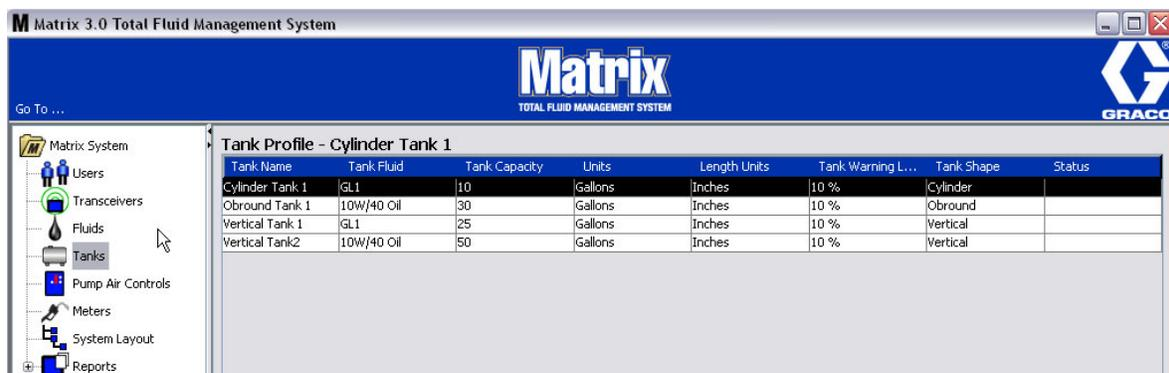

FIG. 75
1. When all required information for the tank profile has been supplied, click OK to close the screen and save the changes. The tank is added to the list as shown in FIG. 75.
2. To modify a Tank profile (FIG. 75) highlight the entry listed on the main Tanks screen as shown in FIG. 75.